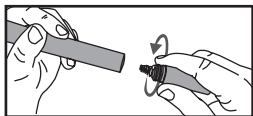

Figure 17.1; Unscrew Battery Cap
Using two hands, carefully and slowly unscrew the BATTERY CAP ⑧ [Fig. 17.1]. Batteries will naturally fall out of the battery tube, so be prepared to catch them.